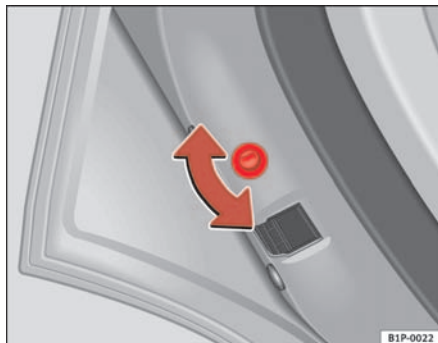
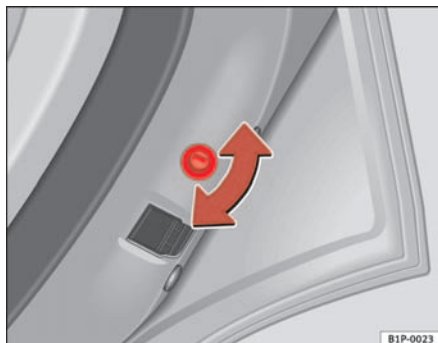

Fig. 61 Child safety lock on the left hand side door
Fig. 62 Child safety lock on the right hand side door
- With the door open, rotate the groove in the door using the ignition key, clockwise for the left hand side doors, and anti-clockwise for the right hand side doors ⇒ fig. 61, ⇒ fig. 62.
- With the door open, rotate the groove in the door using the ignition key clockwise for the right hand side doors and anti-clockwise for the left hand side doors ⇒ fig. 61, ⇒ fig. 62.